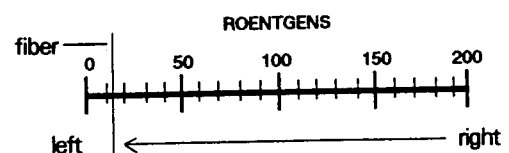

Figure 3
5. Look through the lens and observe the scale (fig. 3). Squeeze the generator lever and release lightly a few times. NOTE: If the dosimeter is not responding, you may need to apply more pressure with the clamp by gently pushing forward on the clamp against the end of the dosimeter. DO NOT PUSH TOO HARD. You can damage the dosimeter.